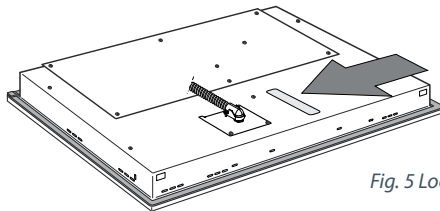

Fig. 5 Location of nameplate label
- The nameplate label is located on the underside of the cooktop, on the right hand side. See Fig. 5 below.